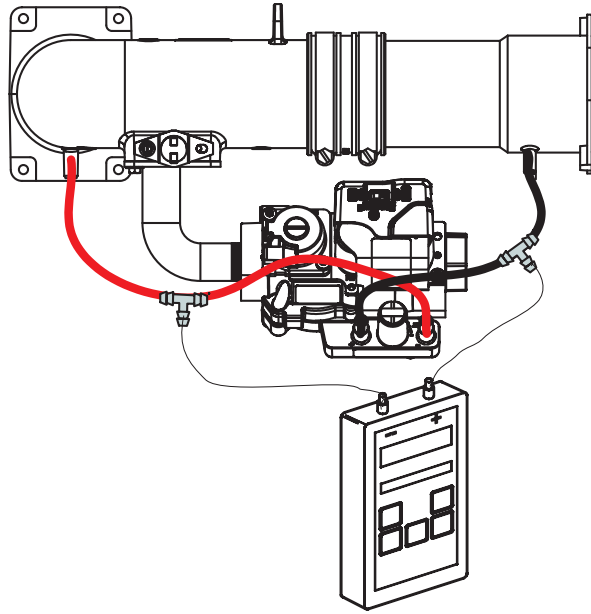

FIGURE 58
- 3 - Install hoses and meter as shown in FIGURE 58 for signal pressure measurement.